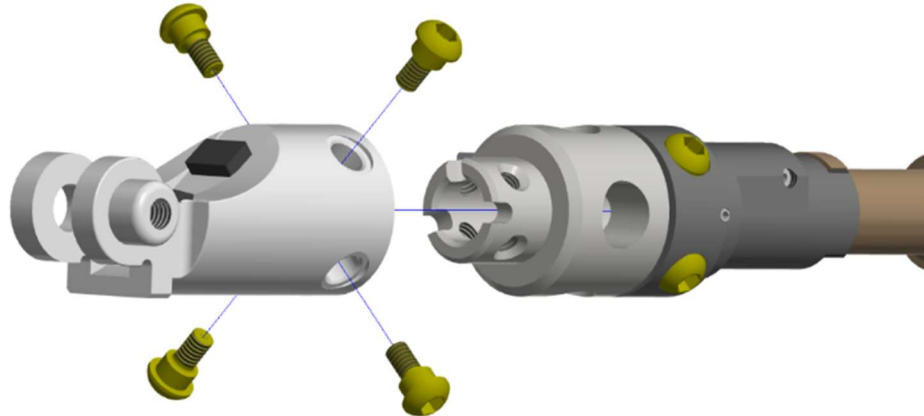

Figure 11-19. Remove the four Modified BHSS M6 Thread (W50-61042) from Proximal Lower Arm Tube (474-6501-1,2)
11.2.15 Remove the four Modified BHSS M6 Thread (W50-61042) from Proximal Lower Arm Tube (474-6501-1,2) (Figure 11-19).